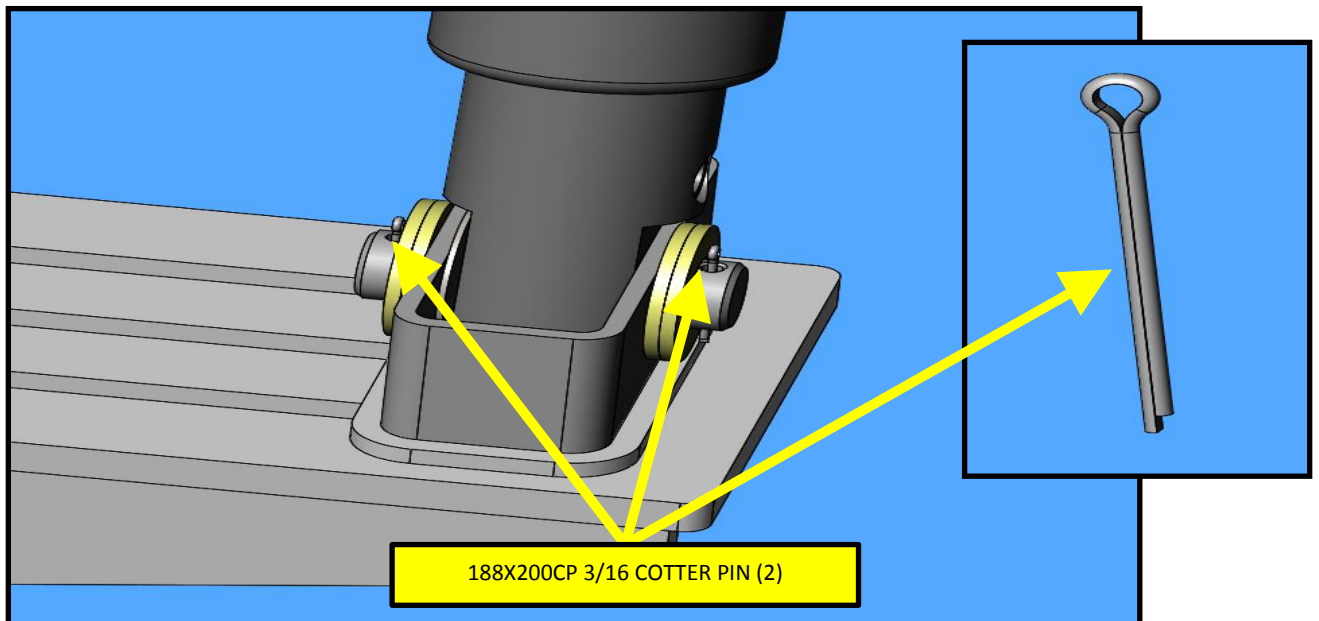

FIG. 16-2
27. After the new 1283-EE1-001 lower pin is installed, insert (2) 188X3200CP 3/16" x 2.0" cotter pins as indicated then bend legs to prevent the cotter pins from falling out. Refer to FIG. 16-2.